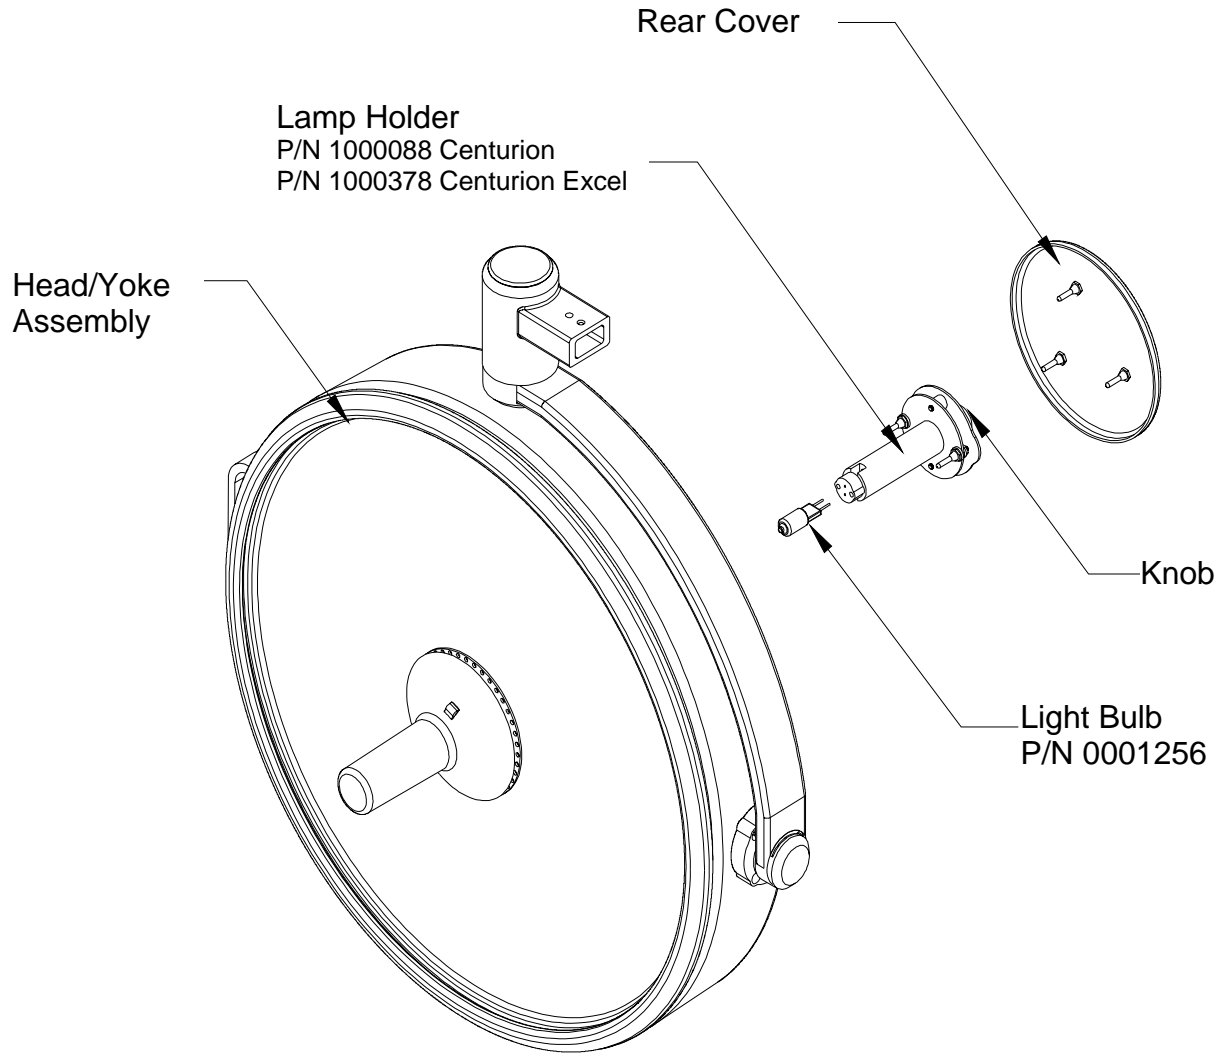

FIGURE 34: Centurion/Centurion Excel Lamp Replacement
- For the Centurion and Centurion Excel pull off the rear housing cover from the light head as shown in figure 34.